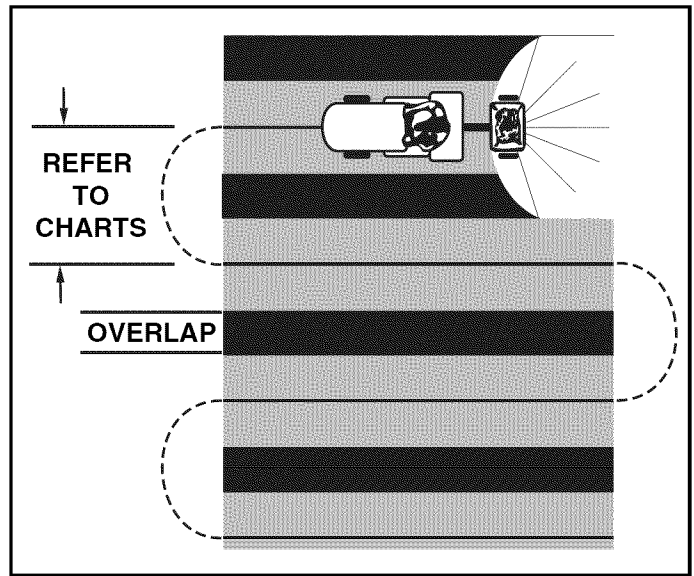

FIGURE 11
- To insure uniform coverage, make each pass so that the broadcast pattern slightly overlaps the pattern from the previous pass as shown in figure 11. The approximate broadcast widths for different materials are shown in the application chart on this page.